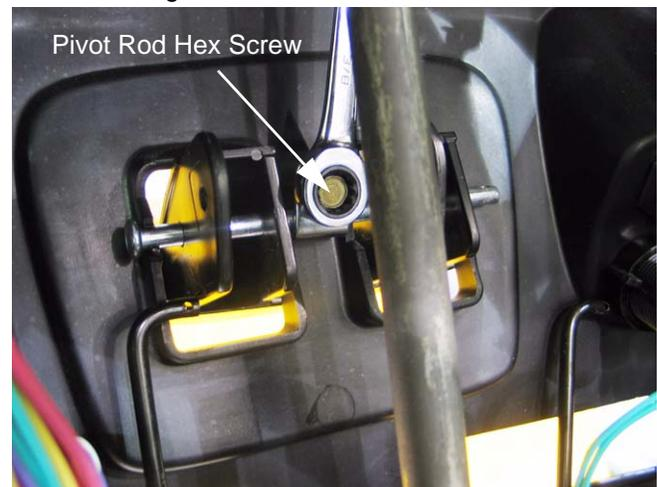

Figure 16.5
- 16.5. Remove the screw holding the pivot rod in place. See Figure 16.5.